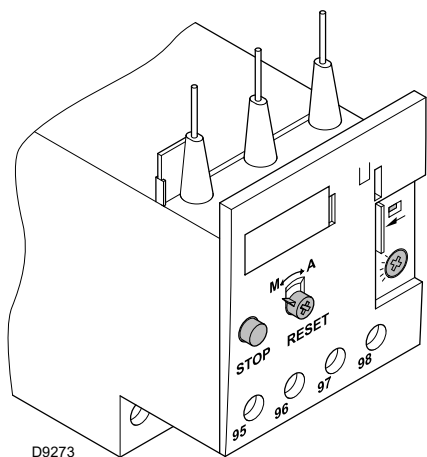

Fig. 38
The electro-mechanical overload relay (Fig. 38) is used to avoid damage to the motor owing to a strong increase in absorption or the lack of a phase.
- To reset, in the case of an intervention of the overload relay, press the button **"RESET"** (Fig. 38).
- The button **"STOP"** (Fig. 38) opens the NC (95-96) contact and stops the motor.